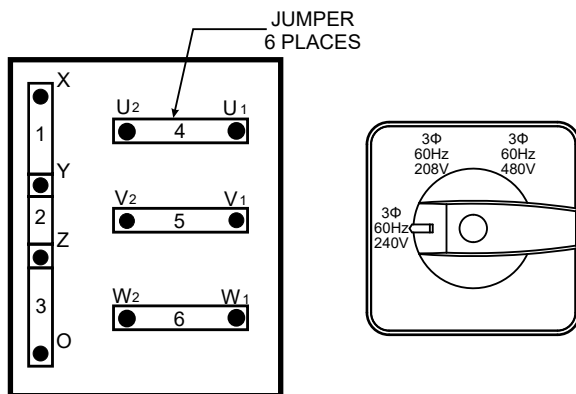

Figure 15. 3-Phase 240/139-Volt Configuration
1. Jumper the **voltage change-over board** for **240-volt operation** as shown in Figure 15.
2. Place the **Voltage Selector switch** in the **240-volt position** as shown in Figure 15.
1. Make sure the **voltage change-over board** is jumpered for **240-volt operation** and the **Voltage Selector switch** has been placed in the **240-volt position** as shown in Figure 15.